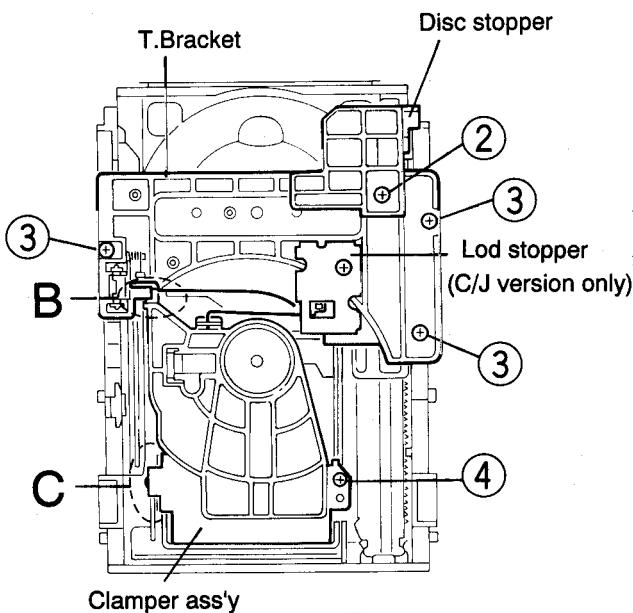

Fig.5-37
5. Remove the screw ② retaining the Disc stopper (See Fig. 5-37).
6. Remove the three screws ③ retaining the T. bracket (See Fig. 5-37).
7. Remove the screw ④ retaining the clamber assembly (See Fig. 5-37).